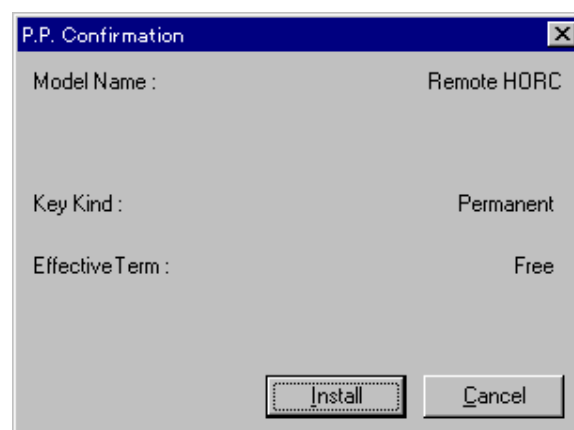

Figure 3.8 Confirming the HORC Key Code
- e) If the key code is accepted, the Program Product (P.P.) Confirmation panel opens (see Figure 3.8). Confirm the information displayed on this panel, and select **Install**. The Option Product panel now displays **[Install]** for the **Remote HORC** option.